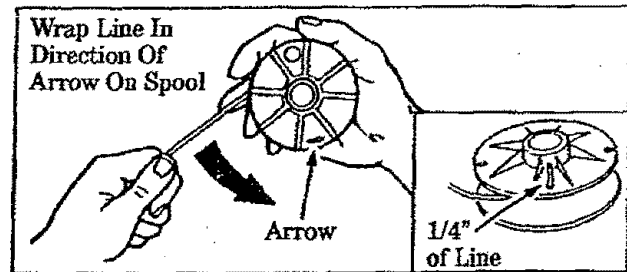

Figure 14
- Hold spool as shown in Figure 14.
- Insert 1/4 to 3/8 inch of line through the tapered slot in the top of the spool. Figure 14 (inset).